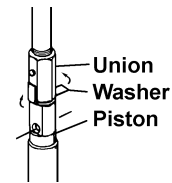

Fig.11
- 11) Insert the ball into the piston. Insert the spring into the union. Put the washer between the piston and the union, and then connect each other. This time keep the both edge of the washer right-angled position against the side of the hexagon part of the union. Then screw the union with a spanner and fix to the piston firmly. Bend the both edge of the washer to the direction to the union. This plays a role of stopper. (Fig.11)